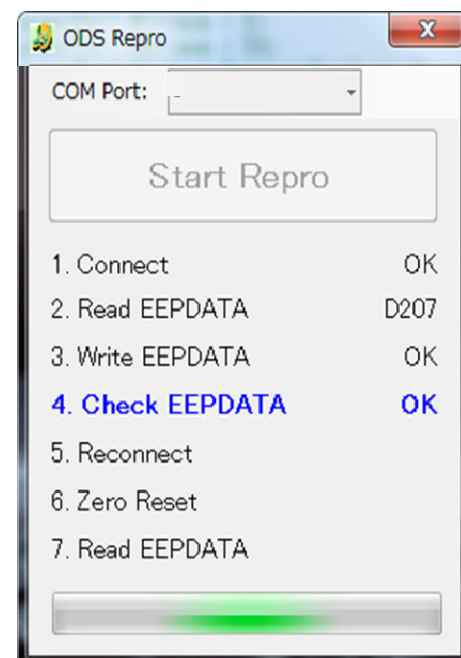

Figure 7
- Items 1 through 4 (Figure 7) will likely complete quickly.